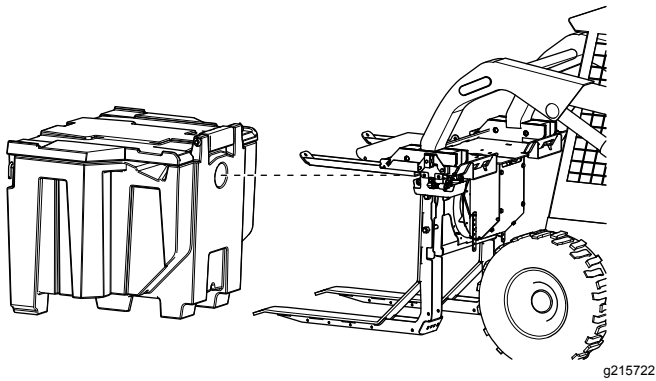

Figure 18
2. Tilt the spreader frame so that the forks are parallel to the ground (Figure 18).
3. Lower the cube and slowly back up the skid steer (Figure 18).